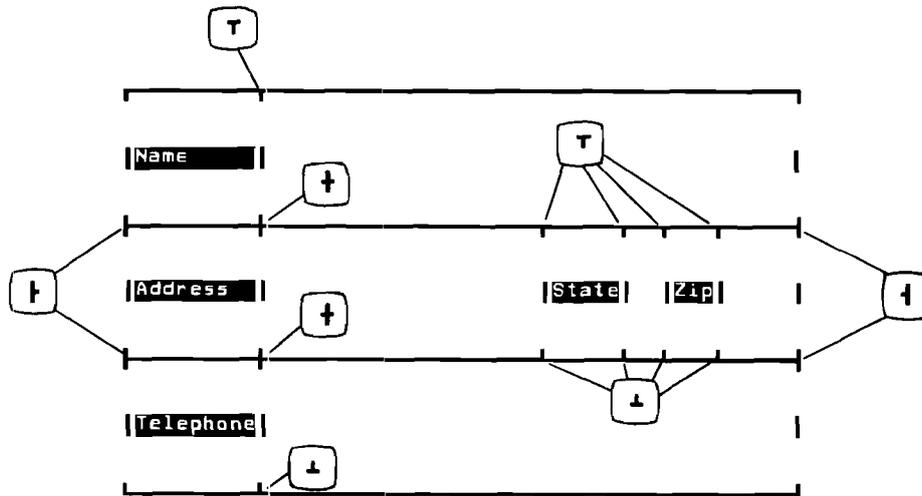

Figure A-6. Building a Form — Phase 2
- STEP 2. Move the cursor to each line intersection, and press the appropriate soft key. (Figure A-6 shows the soft key used at each line intersection in the sample form.)